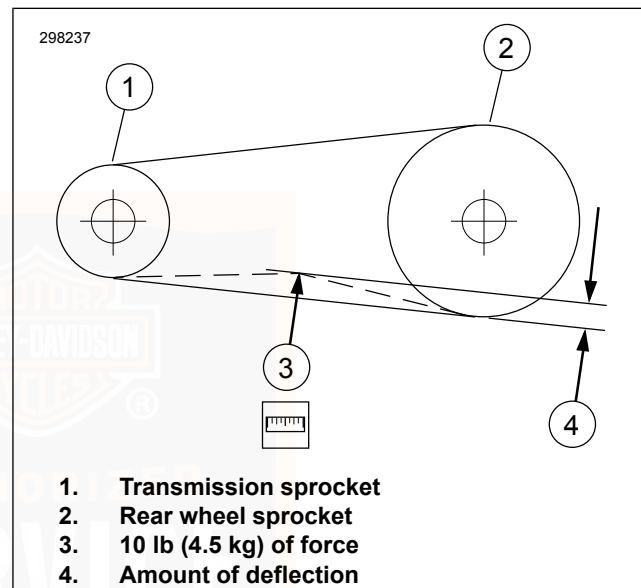

Figure 68. Checking Belt Deflection
- a. Slide O-ring (4) to zero mark (3).
- b. Fit belt cradle (2) against bottom of drive belt halfway between drive pulleys.
- c. Press upward on knob (6) until O-ring slides down to 10 lb (4.54 kg) mark (5) and hold steady.
4. See Figure 68. Measure amount of deflection (4) while holding gauge steady.